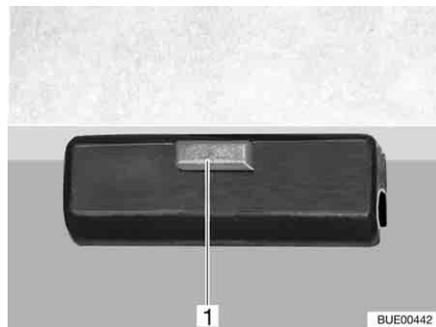

Fig. 72 Lock
- Release the lock (Fig. 72,1) on the table top.